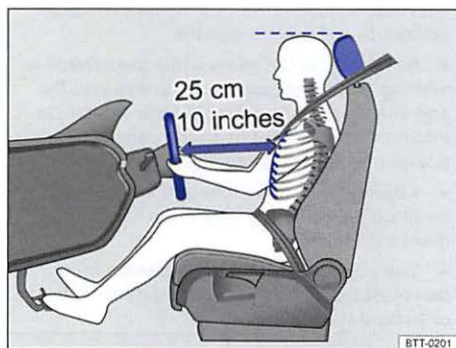
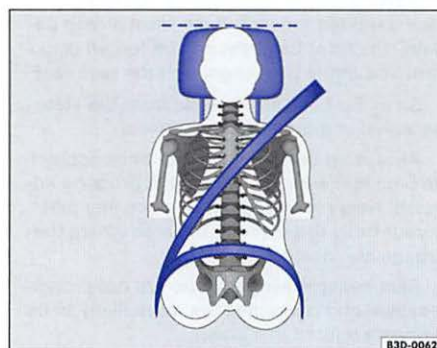

Fig. 32 The driver should never sit closer than 10 inches (25 cm) of the steering wheel.
Fig. 33 Proper safety belt positioning and head-restraint adjustment.
- Adjust head restraints so that the upper edge of the head restraint is at least at eye level or higher. Position the back of your head as close as possible to the head restraint $\Rightarrow$ fig. 32 and $\Rightarrow$ fig. 33.
- Adjust the steering wheel so that there are at least 10 inches (25 cm) between the steering wheel and your breast bone $\Rightarrow$ fig. 32. When adjusting the proper distance to the steering wheel, grasp the top of the steering wheel with your elbows slightly bent.